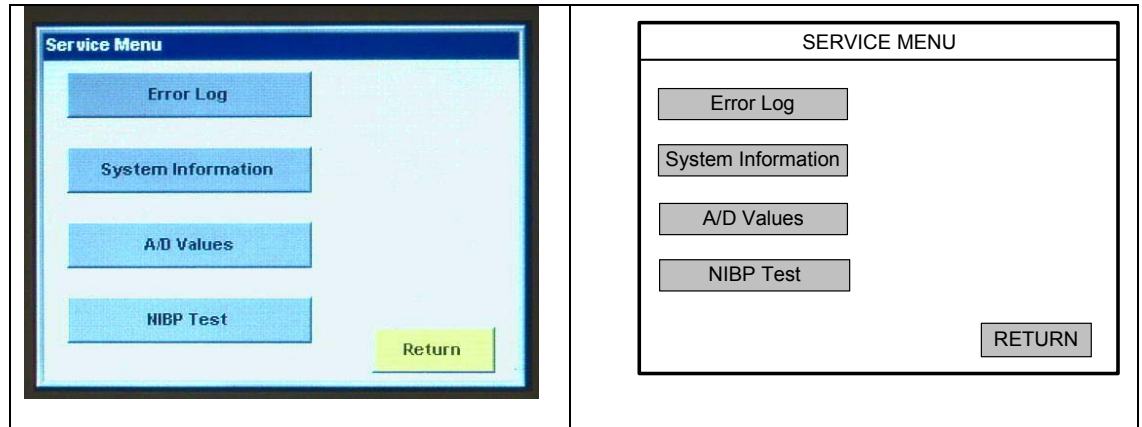

Figure 4-2. Service Menu Screen
The LIFEGARD ICG monitor provides service technicians with a number of informational tools via the **Service Menu**. As shown in Figure 4-2, the menu, provides for four (4) categories of information: Note that the illustrations include a screen photo and a line drawing to clarify the text in the photo.